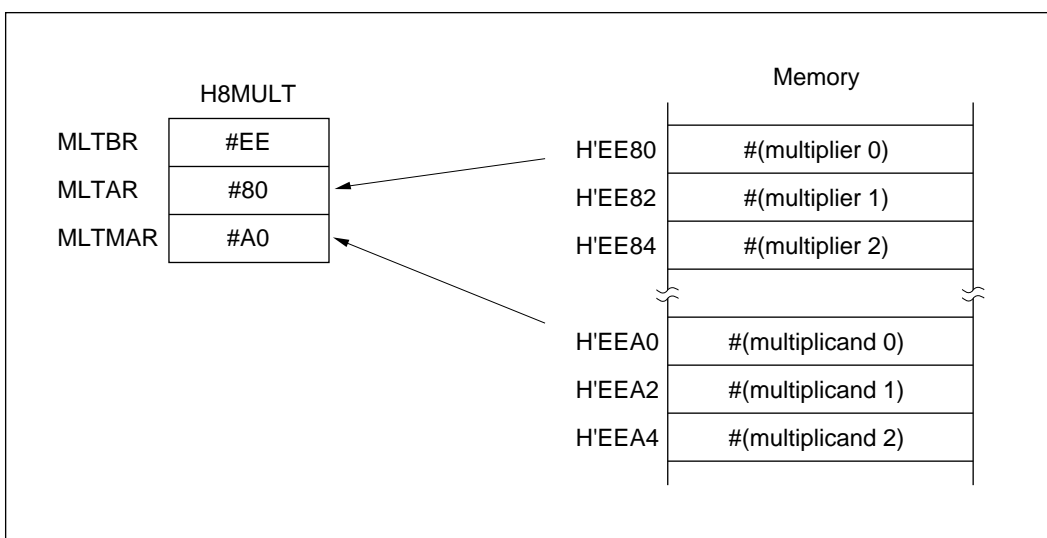

Figure 5-6 MLTBR, MLTAR, and MLTMAR Settings
To load the multiplicand by bus stealing, in addition to the steps in (2) (b), set the lower eight bits of the address where the multiplicand will be located in the MULT multiplicand address register (MLTMAR). See the example in figure 5-6.